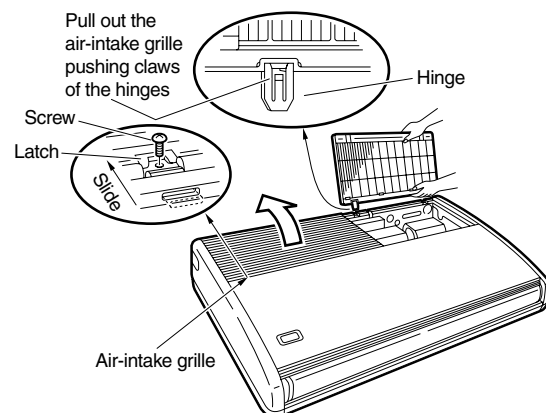
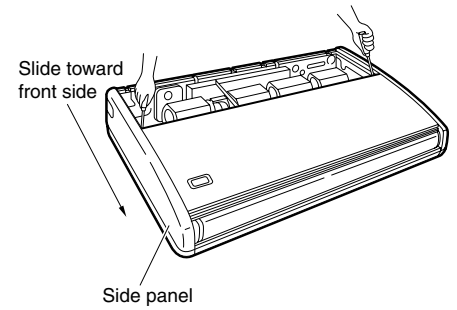

Fig. 3-117
Fig. 3-118
- (5) Before suspending the indoor unit, remove the 2 or 3 screws on the latch of the air-intake grilles, open the grilles, and remove them by pushing the claws of the hinges as shown in Fig. 3-117. Then remove both side panels sliding them along the unit toward the front after removing the 2 attachment screws. (Fig. 3-118)